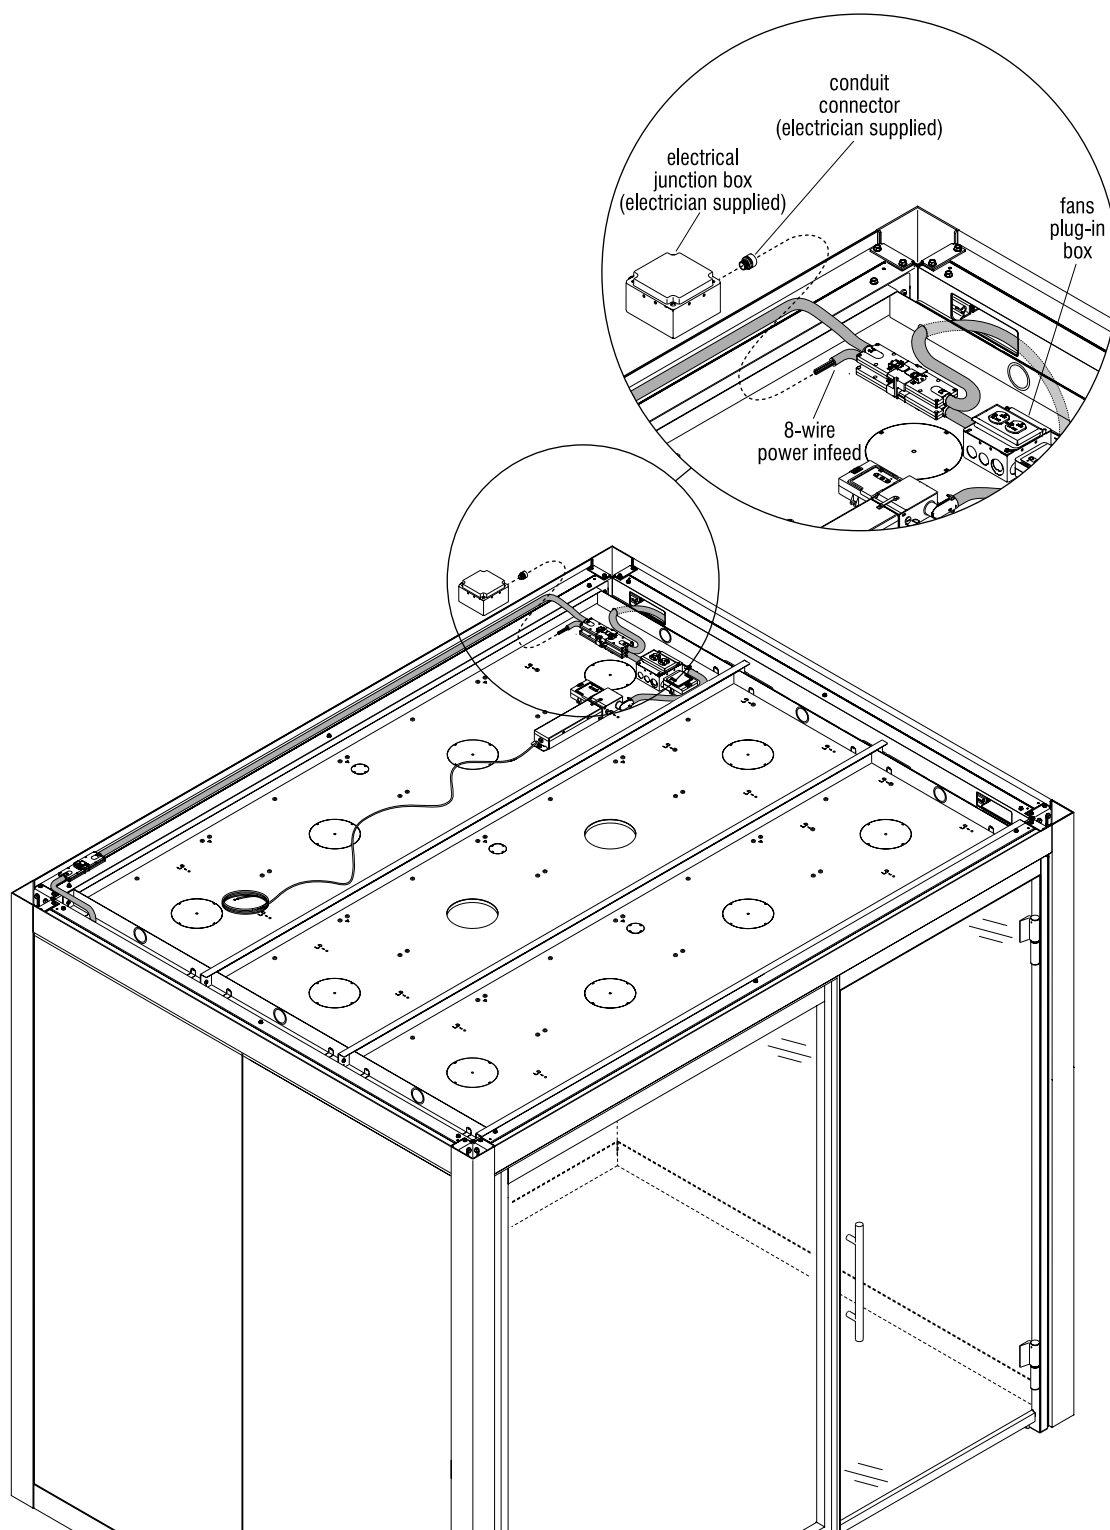

Figure 3
9. The pigtail conduit end of the 8-wire power infeed is to be connected into an electrician-supplied junction box using a conduit connector. The junction box will sit on the blank plank ceiling (Figure 3).